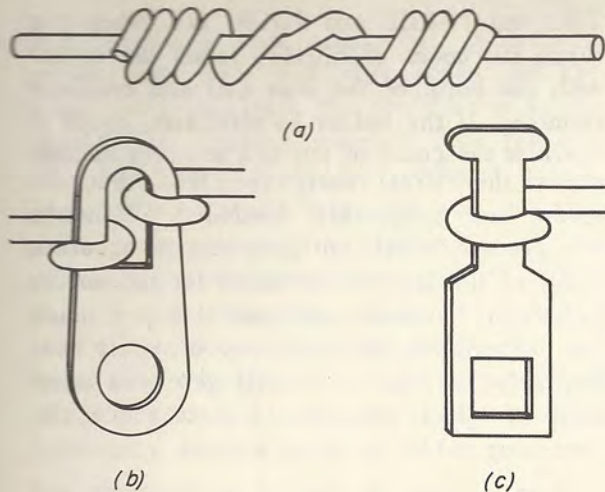

Fig. 1-6
**Making a Good Mechanical Joint.** Unless you are making a temporary joint, the next step is to make a good mechanical connection between the parts to be soldered. For instance, wrap wire carefully and tightly around a soldering terminal or soldering lug. Bend wire and make connections with long-nose pliers — not with your fingers. Oil or grease from your fingers will cause the solder to run off the joint instead of sticking to the metal. When connecting two wires together, make a tight *splice* (a joining together) before soldering. Figure 1-6 shows how some of these connections look when they are properly made. When a good mechanical contact is made, you are ready for the actual soldering.